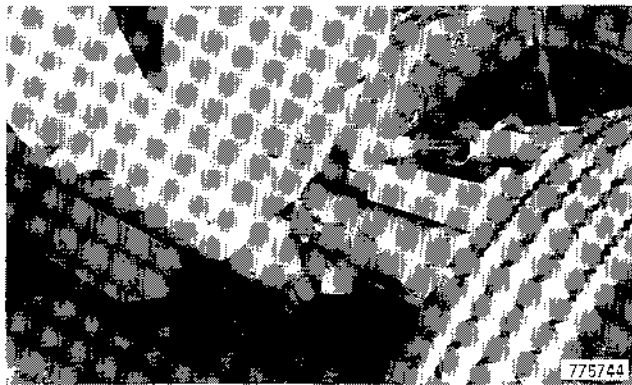

Figure 146
20. Remove the blocks of wood from between the axle and main frame, Figure 146.